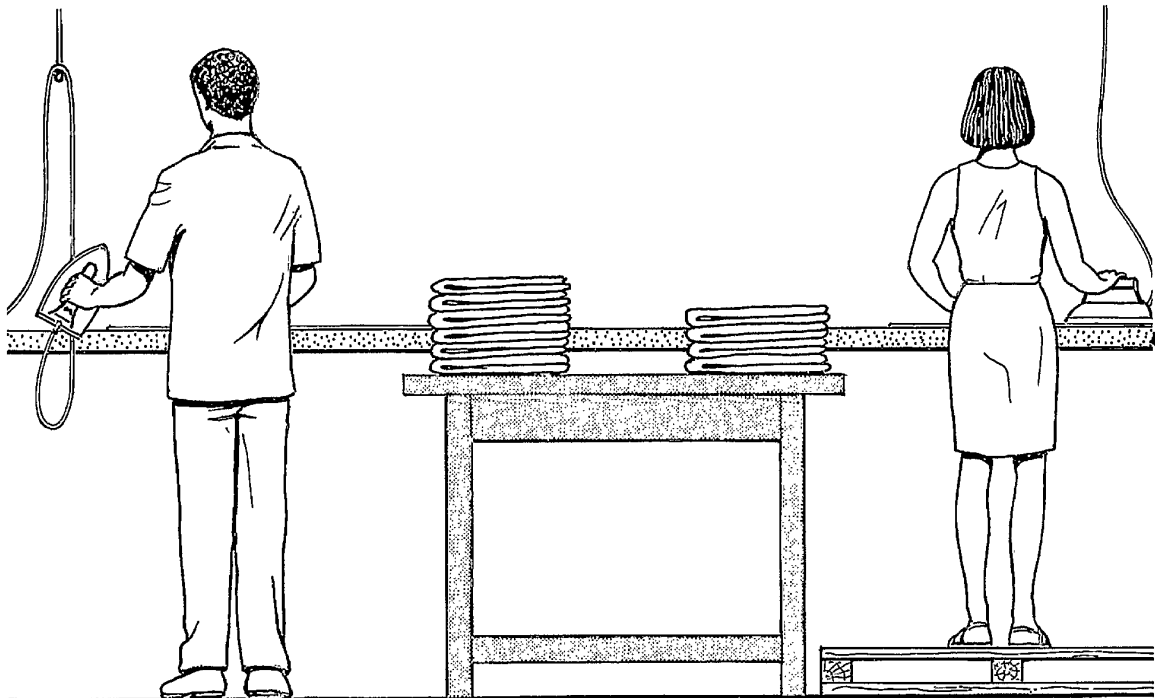

Figure 11: This ironing workstation requires a foot platform for a small worker to ensure an appropriate work height slightly below elbow height
- short workers operating in a standing position (see figure 11)